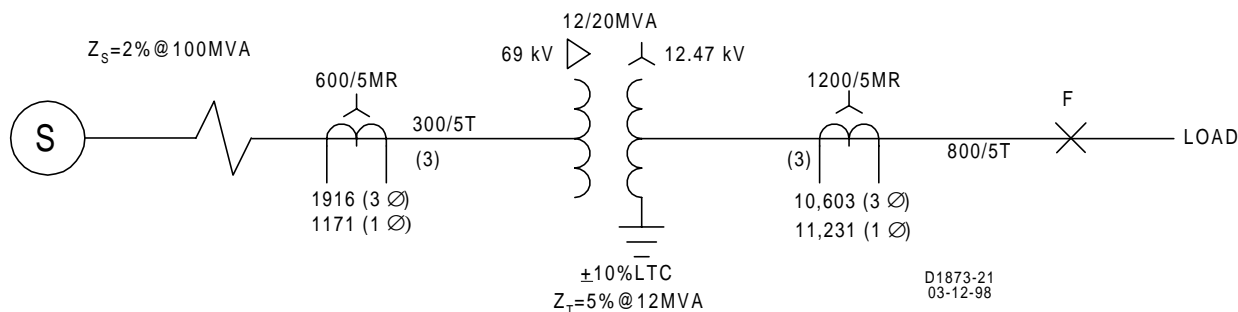

Figure 4-35. Two Winding Transformer Relay Setting Calculation Example
Refer to Figure 4-35 for a one-line drawing of this example.
Step 3. Three-Phase Units Only: Adjust the phase compensation jumpers on Analog Board #2, shown in Figure 2-4, (or use the procedure listed in **TESTING THREE-PHASE UNITS WITHOUT CHANGING JUMPERS**, in Section 5). Because of the grounded winding in this example, as shown in Figure 4-35, the high-side and low-side zero-sequence currents must be canceled. Because the CTs are connected in wye and the high-side currents lead the low-side currents by 30°, select the $\Delta 2$ position. This connection advances the low side phasors by 30° to match the phasors from the High side.
Step 12. Determine the maximum CT secondary fault current for external faults at F (I_{F3} for three-phase, and I_{FG} for single-phase). Refer again to Figure 4-35 for this example:
Neglecting R_R , use R_W and R_L from Figure 4-35: